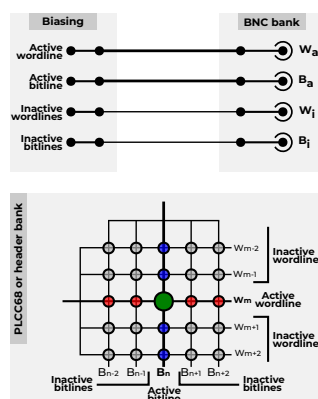

Fig. 6 - External BNC mode
2. **Live: External BNC** – in this mode of operation your device under test should be connected to the instrument through the BNC terminals. The board applies stimuli and reads out data exclusively through the BNC terminals (Figure 6). In the Crossbar Panel the target device appears as address  $[W=1, B=1]$ . **WARNING:** Please ensure no package is connected in the PLCC68 holder or through the header bank.